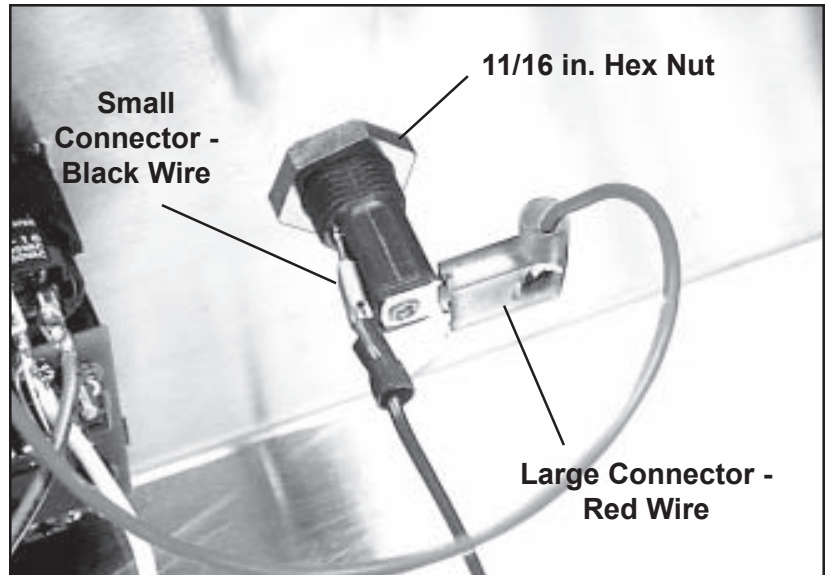

Figure 26. Fuse Holder
5. Pull the large connector with the red wire off the fuse holder (Figure 26).
3. Inside the housing, fasten the holder in place with the same 11/16 in. hex nut removed earlier (Figure 26).